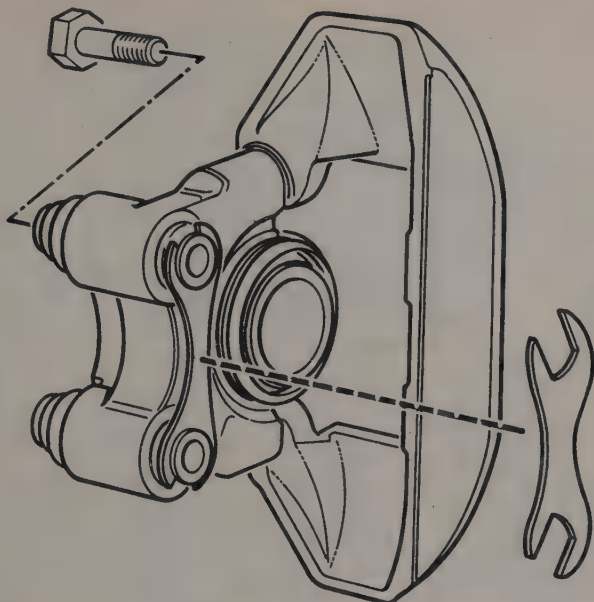
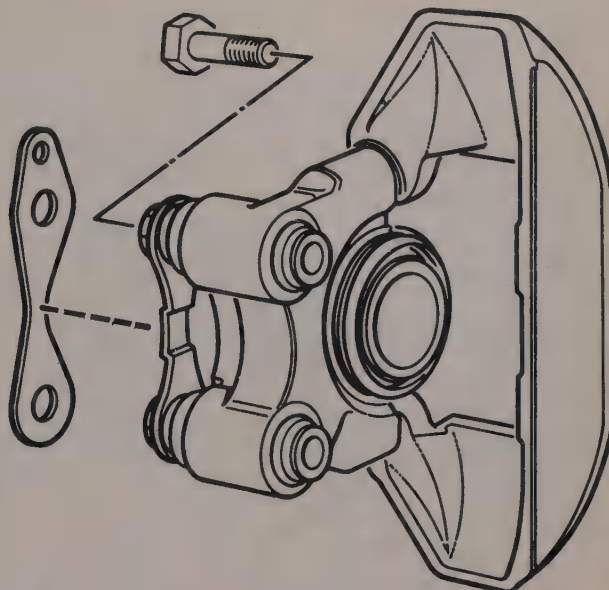

Fig. 9.15 DBA front disc caliper and stop plate (Sec 6)
Fig. 9.16 DBA front disc caliper and lockplate (Sec 6)
- 10 On the DBA type, remove the guides and rubber dust covers from the housing. A stop plate (Fig. 9.15) is fitted to early models, and a lockplate (Fig. 9.16) is fitted to later models.